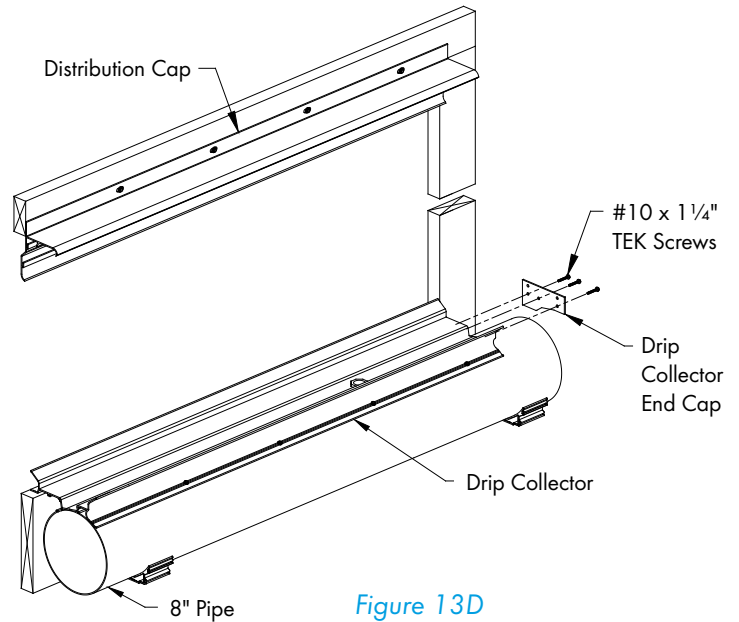

Figure 13D
On right side of system apply PVC cement to end of Drip Collector and line up the 3 holes in the Drip Collector End Cap to the 'U' Channels in the Drip Collector, fasten using (3) #10 x 1 1/4" TEK Screws (provided). See Figure 13D.
See Figure 13D.